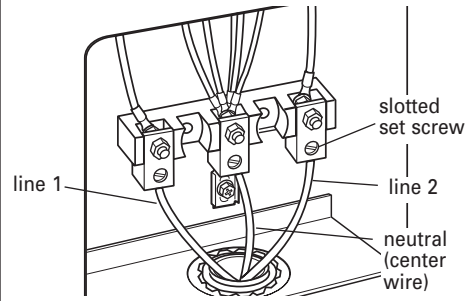

Figure 3
10. Loosen (do not remove) the 3 slotted set screws. Insert the neutral (white) wire into the hole at the bottom of the center position terminal lug (attached to center terminal screw of terminal block). See Figure 3.
12. Securely tighten the set screws. For 8 gauge copper wire, tighten to 25 in/lbs of torque, and for 6 gauge aluminum wire, tighten to 35 in/lbs of torque to make a proper electrical connection. See Figure 3.